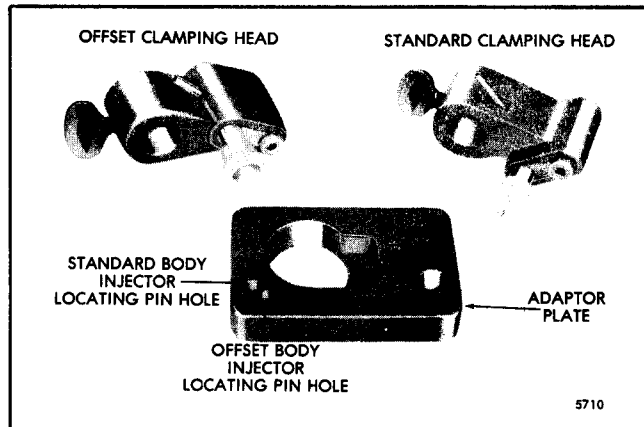
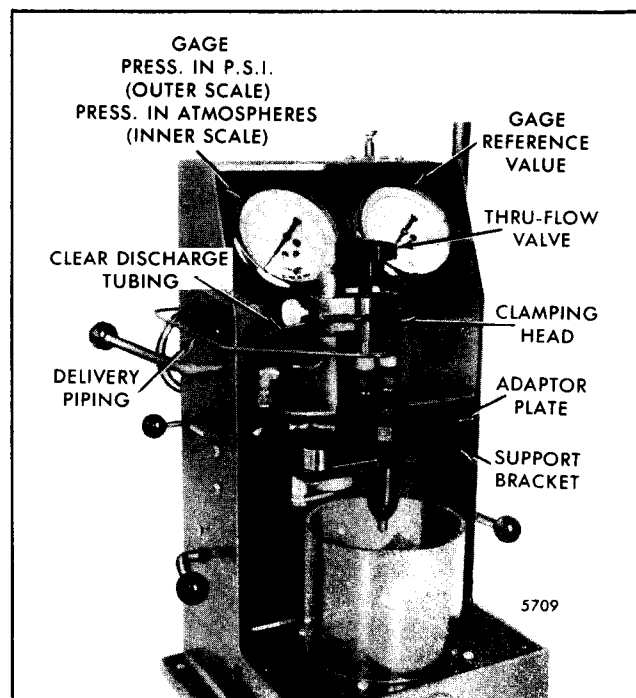

Fig. 11 - Injector Tester J 23010 Clamping Heads
Fig. 12 - Injector Installed in Tester J 23010 with Clamping Head
1. Select the proper clamping head (Fig. 11). Position it on the clamping post and tighten the thumb screw into the lower detent position (Fig. 12).
5. Mount the injector through the large hole and insert the injector pin in the proper locating pin hole (Fig. 11).
2. Align the clamping head nylon seals over the injector filter caps (Fig. 12).